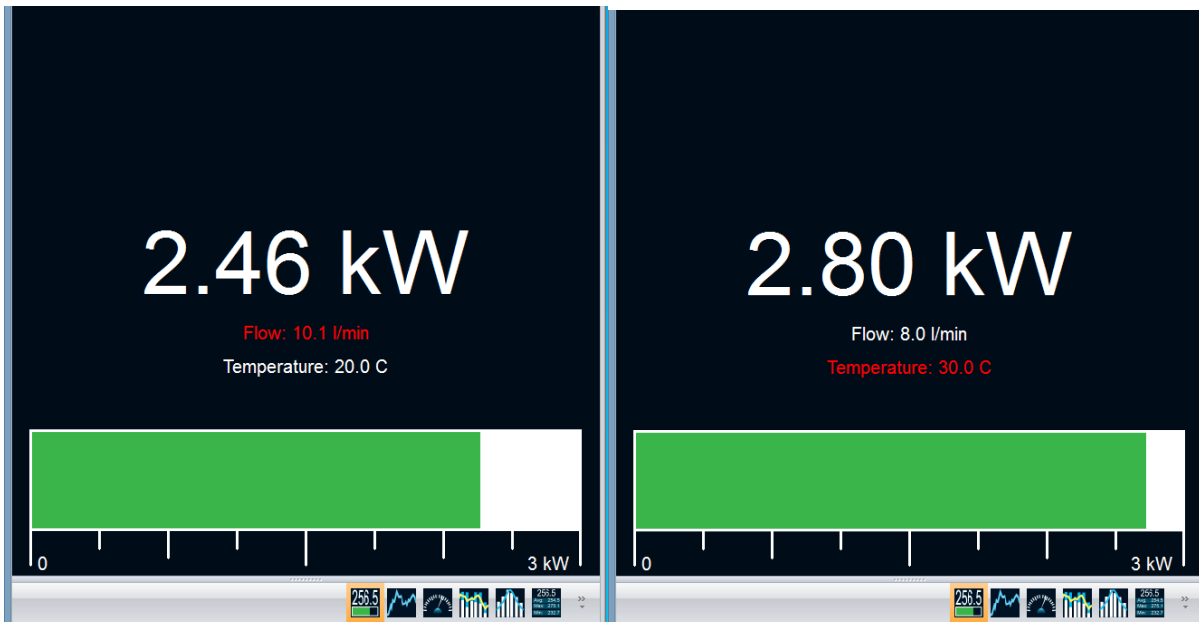

FIG. 2-3 A & B PC INTERFACE WARNINGS
- If the flow rate (FIG 2.3 A) or temperature (FIG 2.3 B) are too high or low the fonts will change to red as a warning that the measurements will be affected.